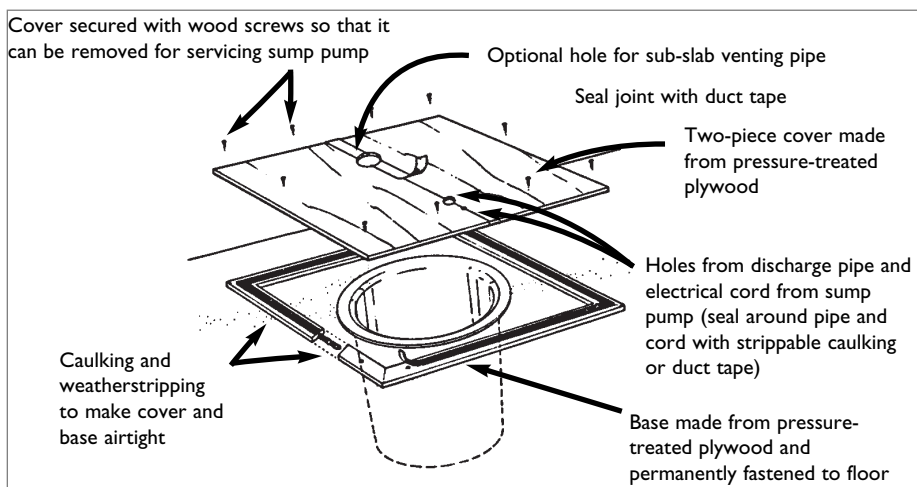

Figure 8: Sealing open sumps
- **Open sumps** – Sumps can be fitted with an airtight cover (*see figure 8*). If the sump also acts as a floor drain, add a special trap to the airtight cover and slightly recess the cover into the sump.
- Use a sealed lid on the sump. Your builder may either purchase a sealed unit or field fabricate a sealed lid (*refer to* figure 8, page 16). A sealed lid keeps out radon as well as molds, odours, insects and cold drafts. It also reduces the risk of injury to small children.